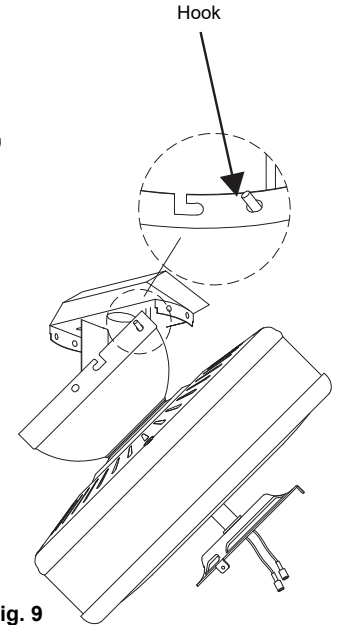

Fig. 9
Step 6. Hang the fan on the hook of the hanger bracket. Be certain that the canopy is fully locked into hook as shown in **Fig. 9**. This will allow you to make the electrical connections.